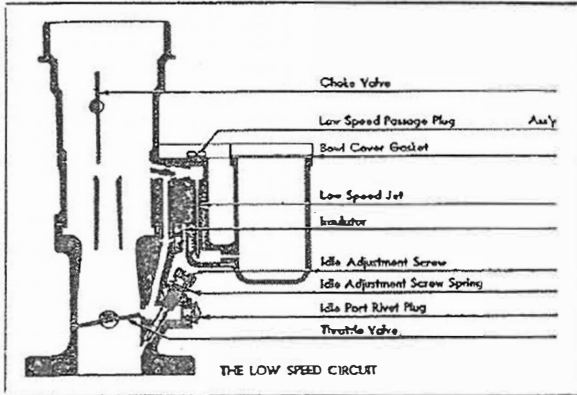

Fig. 1
B. Group all low speed circuit parts. (Fig. 1.)